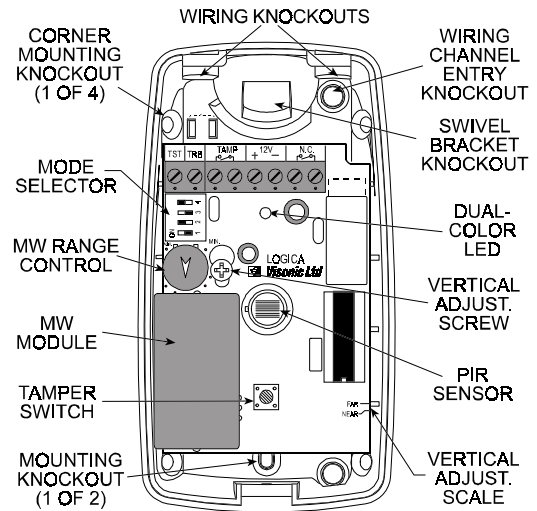
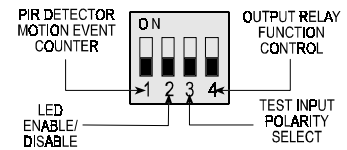
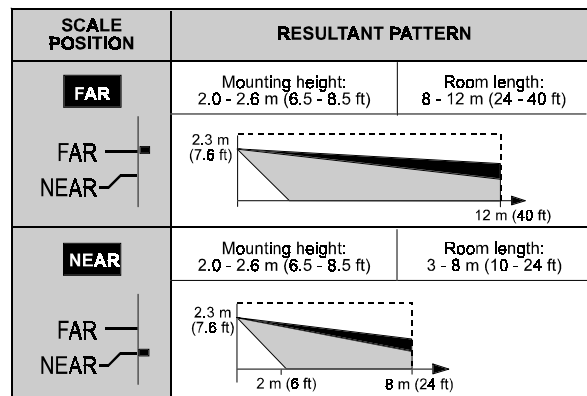

Figure 5. Inside View
Figure 12. DIP Switch Mode Selector
Figure 13. Vertical Adjustment
- Refer to Figure 5 and punch out the mounting knockouts at the rear wall of the base (for surface mounting) or at the angled sides (for corner mounting).
- Punch out any one of the wiring knockouts shown in Figure 5.
The DIP switch mode selector is mounted on the unit's PC board (see Figure 5). It controls four functions as demonstrated in Figure 12 and as detailed in Table 2.
The vertical adjustment scale for the PIR detector is located at the lower right edge of the PC board (refer to Figure 5). Two positions are available - FAR and NEAR. All new LOGICA units are set to the FAR position. To adjust, loosen the vertical adjustment screw, slide the PC board along the vertical slot until the pointer indicates the required position on the scale (see Figure 13). When done, tighten the adjustment screw firmly.